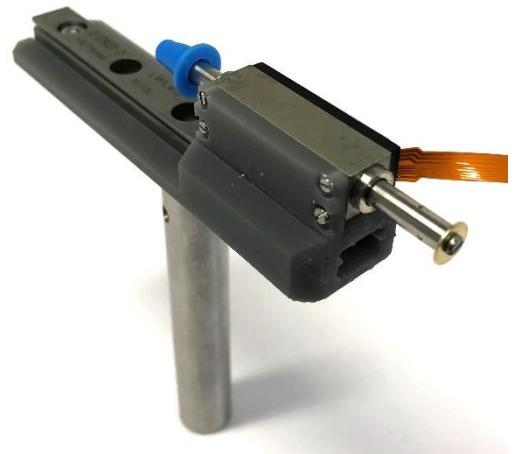

Figure 40 Motor mount with motor installed.
- See Figure 40 for the results of this step.